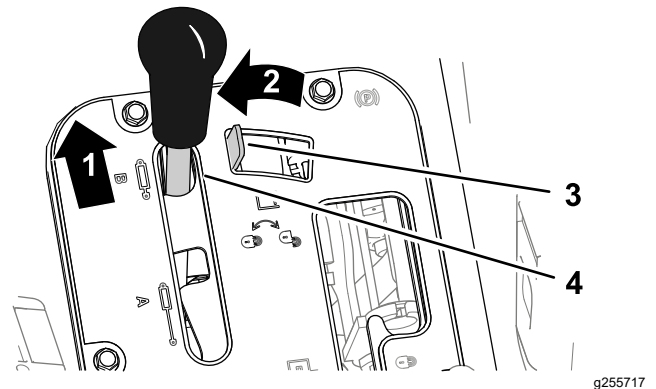
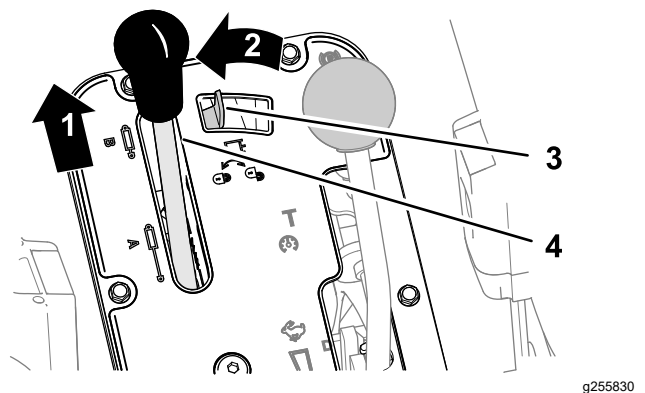

Figure 89
Figure 90
- Push forward the hydraulic-lift lever (Figure 89 or Figure 90).
- Move the hydraulic-lift lock left to engage the lock (Figure 89 or Figure 90).